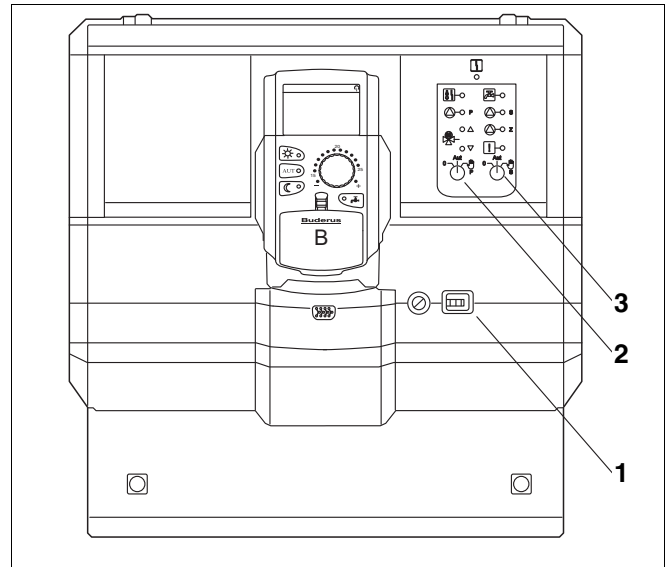

Fig. 26 Logamatic 4126
- Switch on the control unit via the ON/OFF switch (→ Fig. 26, [1]).
- Set primary circuit (→ Fig. 26, [2]) at selector switch to manual .
- Set secondary circuit (→ Fig. 26, [3]) at selector switch to manual .